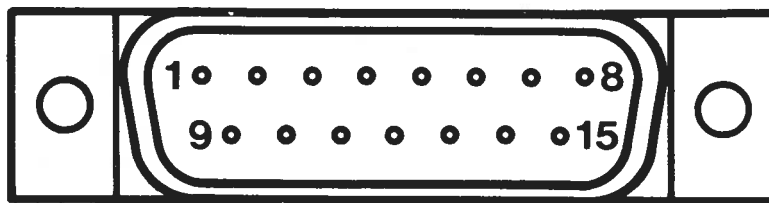

Figure 2.9 System Control Connector Pin Diagram
Every XTC has a SYSTEM CONTROL connector which enables the XTC to handle simple relay control of a deposition system. Standard functions controlled through this connector are source shutter and crystal sensor shutter operation as well as +/- Analog control voltages suitable for controlling most deposition sources. Analog voltages representing the Deposition rate or Accumulated Thickness are also available through this connector. See Figure 2.9 for pin out information. An optional I/O RELAY Module is available with the XTC which provides (8) inputs and (8) outputs. Refer to the options section of this manual for additional information.
In addition to measuring rate and thickness, the XTC can be used to control process thickness. Implementation requires the deposition system have a source (or substrate) shutter capable of automatic operation. The source shutter control must be electrically connected to the source shutter pins of the SYSTEM CONTROL connector (See Figure 2.9).